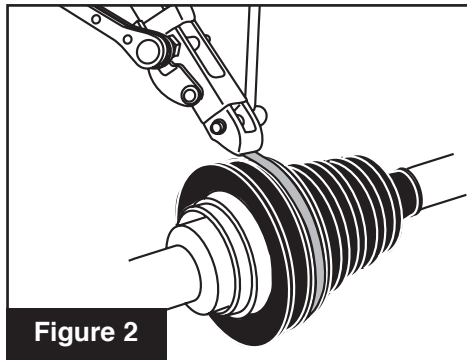

Figure 2
4. Using longer provided steel band install over large end of boot at original location. Use SPC Boot Clamp Installation Tool (**Part No. 02099**) to properly tighten clamp (**Figure 2**).